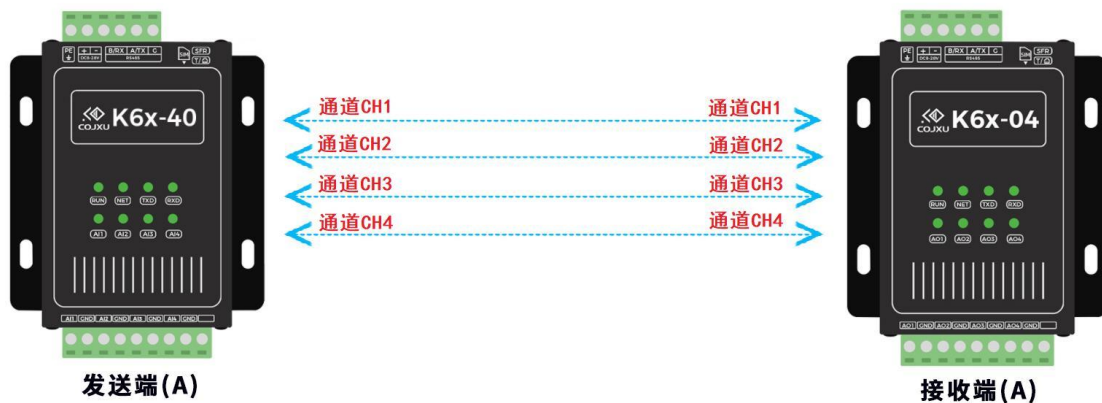

Figure 4-14 One-to-one
1. One-to-one: the corresponding relationship between the channel values of the sender and the receiver, as shown in Figure 4-14